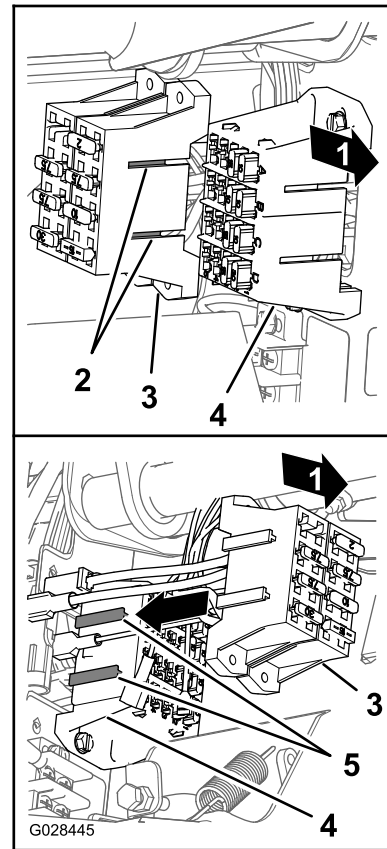

Figure 24
4. Align the T-fittings on the of the fuse block of the sprayer to the T-slots of the fuse block for the machine and slide the sprayer fuse block into the slots until the fuse block is fully seated (Figure 24).